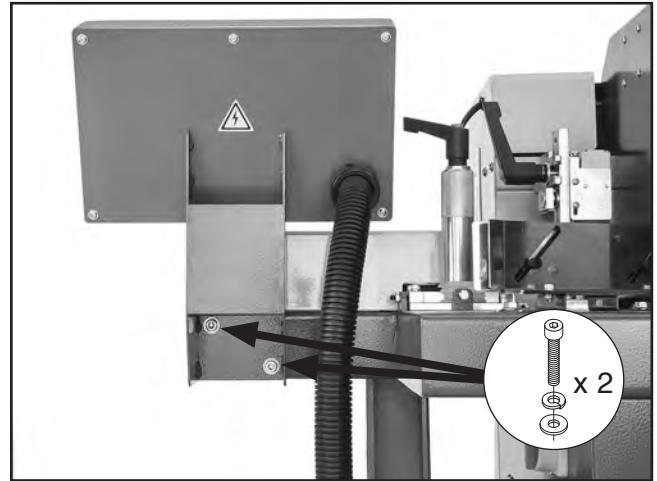

Figure 20. Control panel mounted in proper upright position (viewed from rear of machine).
2. Mount control panel upright with fasteners removed during **Step 1** (see **Figure 20**).